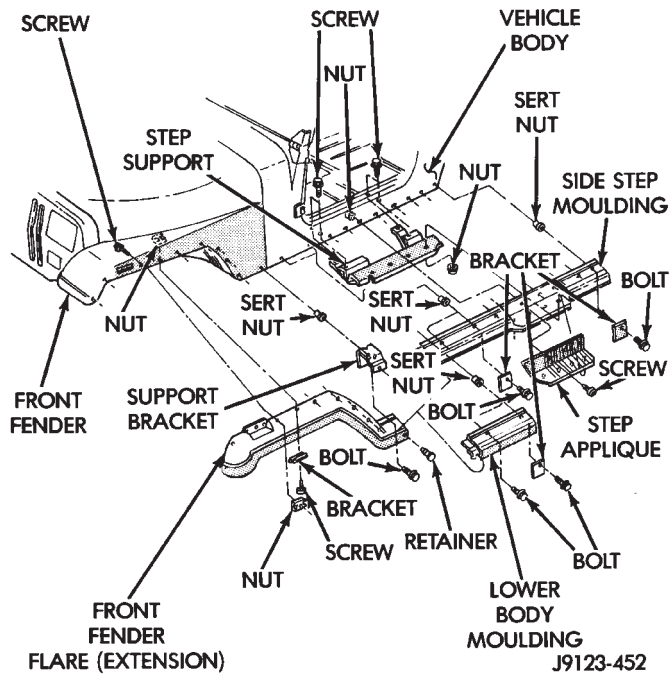
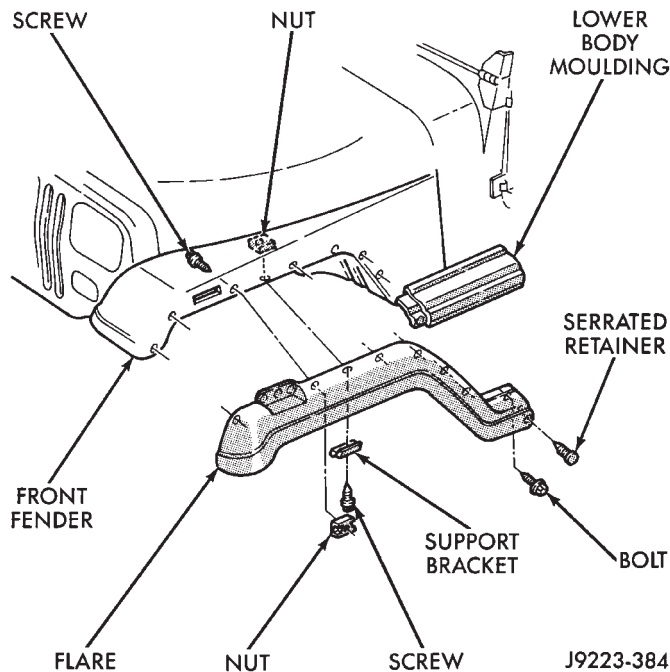

Fig. 36 Front Fender Flare and Side Step Moulding
Fig. 37 Front Fender Flare and Side Step Moulding
(2) Install the flare serrated retainers, screws and nuts (Figs. 36, 37 and 38). Tighten the screw at the lower moulding (Fig. 37) to 11 N·m (96 in-lbs) torque. Tighten the upper screws (Fig. 37) to 11 N·m (96 in-lbs) torque.
(1) It is necessary to loosen the fender flare retaining screws (Figs. 36, 37 and 38) before removing the lower body and step mouldings.
(4) Tighten the fender flare retaining screws (Figs. 36, 37 and 38) to 11 N·m (96 in-lbs) torque.